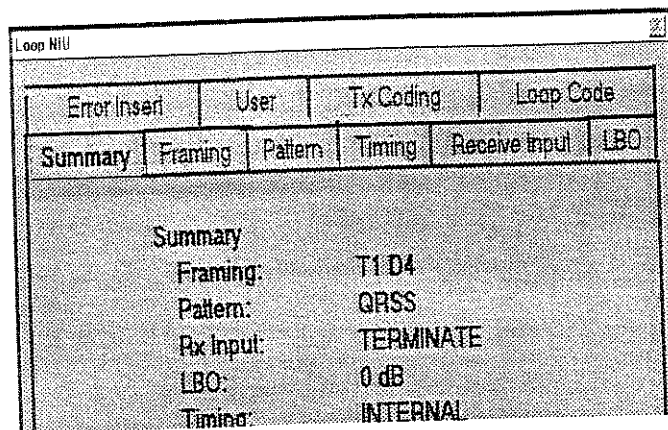

Figure 2-10. Folder Tabs Behind Summary Sheet
4. To check or change the configuration, press **Setup**, which replaces the Main Screen with the Setup Screen (Figure 2-10). The Setup Screen starts with the **Summary** tab with folder tabs